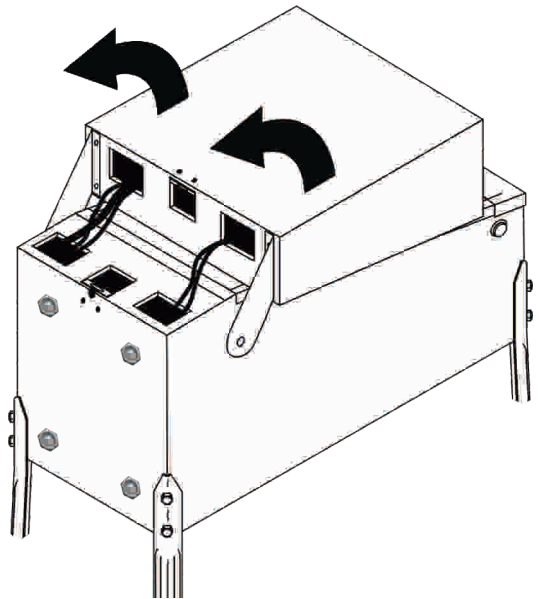

Fig. 6 Raising the cabinet head to its upright position
8. With a utility knife, cut and remove the nylon strap and remainder of the packing material holding the cabinet head and body together. Then raise the cabinet head to its upright position. (Fig. 6).